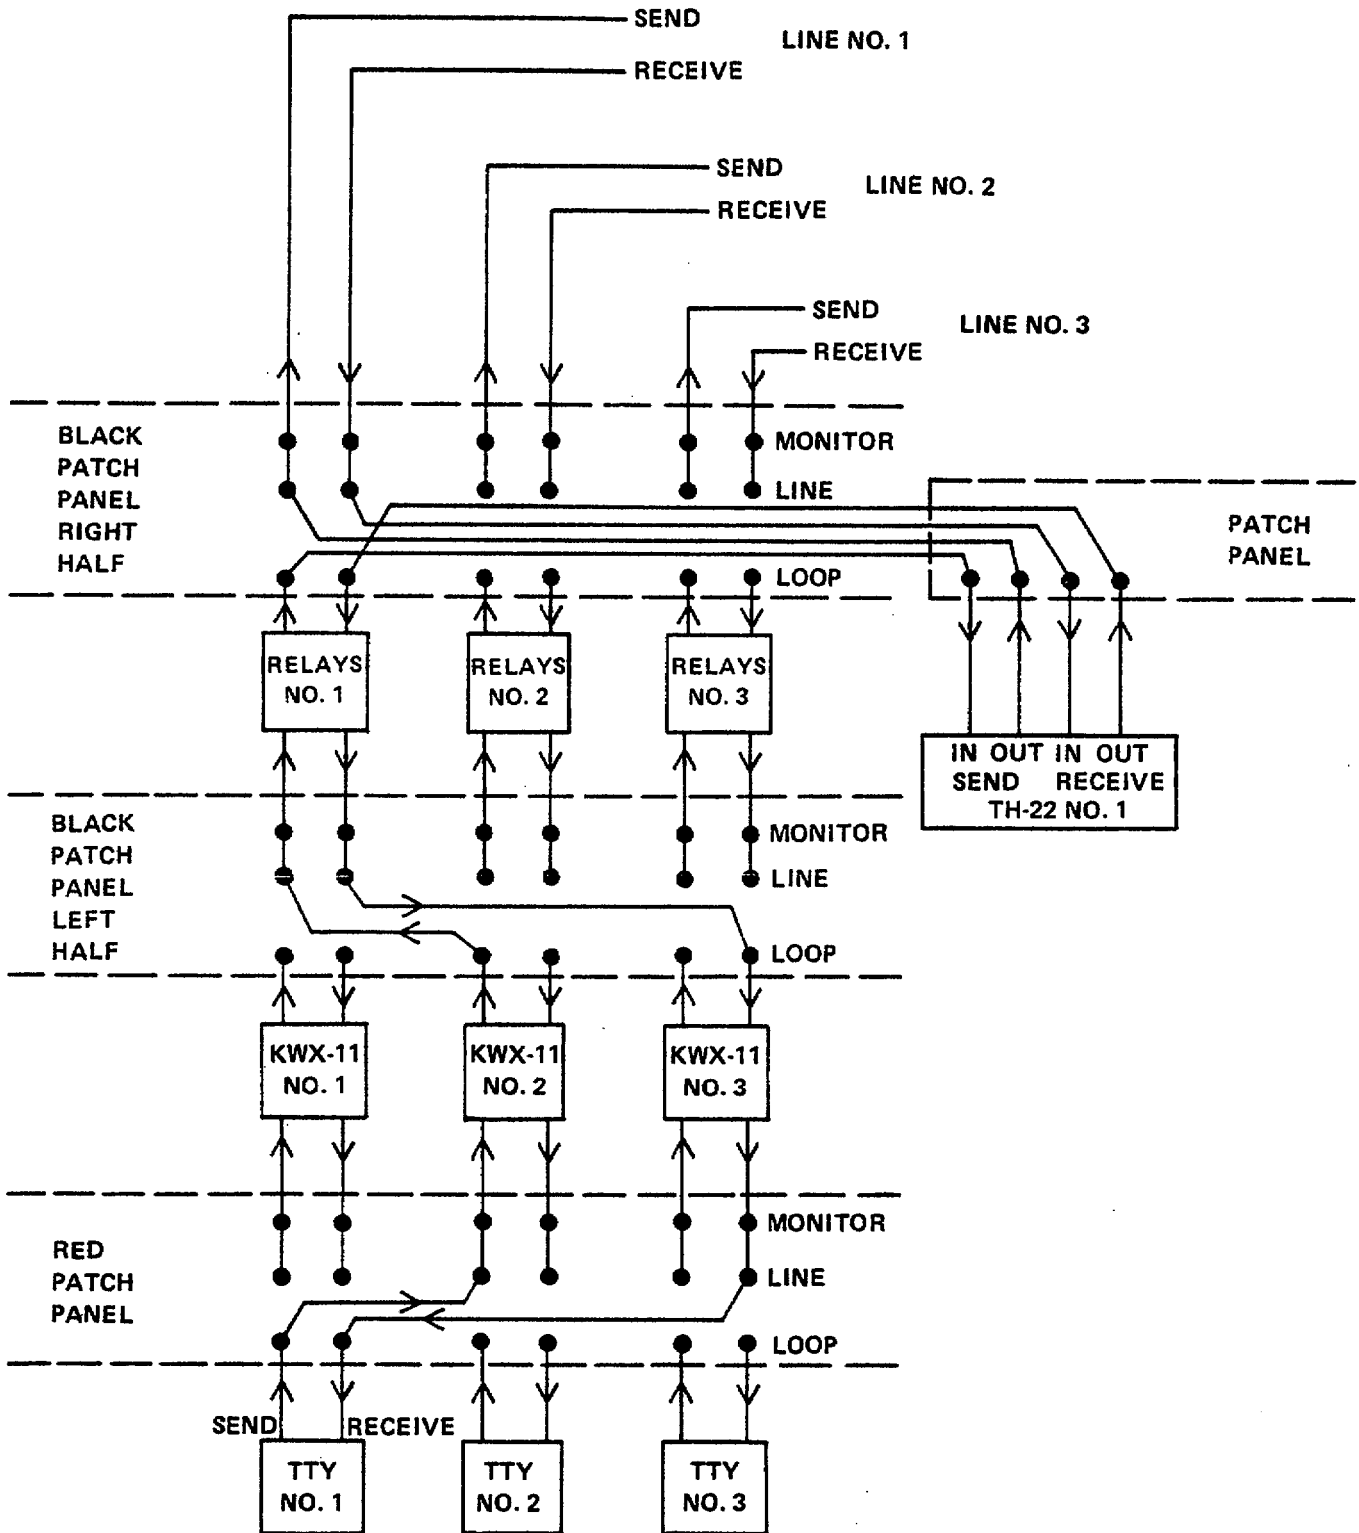

Figure 3-1. Patch Panel Procedure (Example)
- (1) Turn light circuit breakers in both shelters to ON.
- (2) Turn ceiling lights in both shelters to ON.
- (3) Turn A, B, and C phase circuit breakers in both shelters to ON.
- (4) Turn equipment to ON.
b. *Patch Panel Operation.* See figure 3-1.
(1) Assume that it is necessary for TTY No. 1 to send to KWX-1 1 No. 2 and to receive from KWX-1 1 No. 3. Assume further that only No. 1 external signal line is available for use. The patching procedure for this configuration would be as follows:
Step 1. Isolate malfunction to one component; to line relays and amplifier, crypto equipment, tone converter, or teletype. Check signals at Monitor jacks on patch panels (figure 3-1).